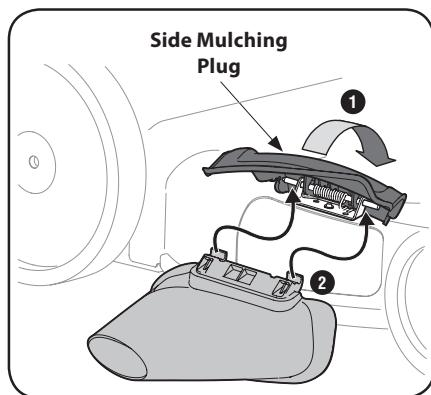

Figure 3-5
- On the side of the mower, lift the side mulching plug. See Figure 3-5.